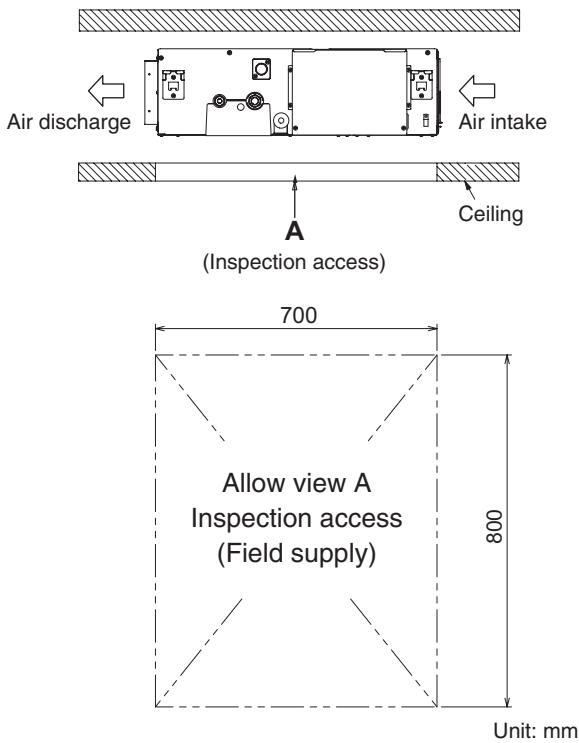

Fig. 3-3
- (1) Confirm the positional relationship between the unit and suspension bolts. (Fig. 3-3)